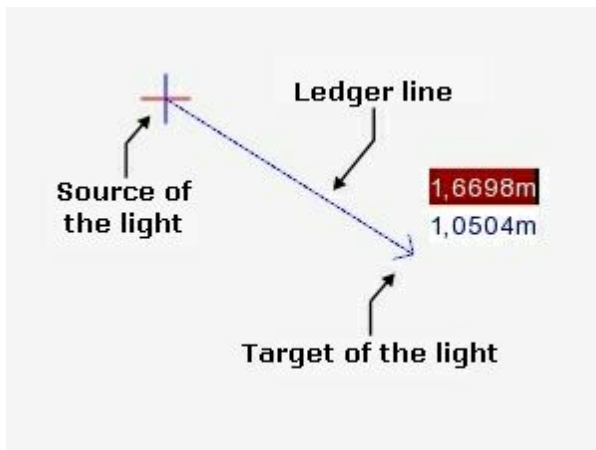

Figure 3
4. **Now click the target** (see figure 3) to determine the **direction of the beam of light**.
The position of the directional light can be changed by the **entry of the coordinates for x, y and z** (red, green and blue axis) in the Properties dialog box. These coordinates refer to the **source of the light** (Figure 3).
Figure 3 displays the directional light with its ledger line.